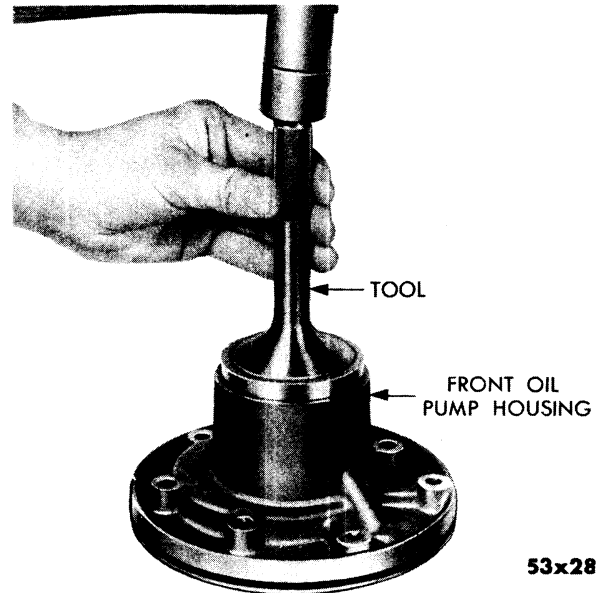
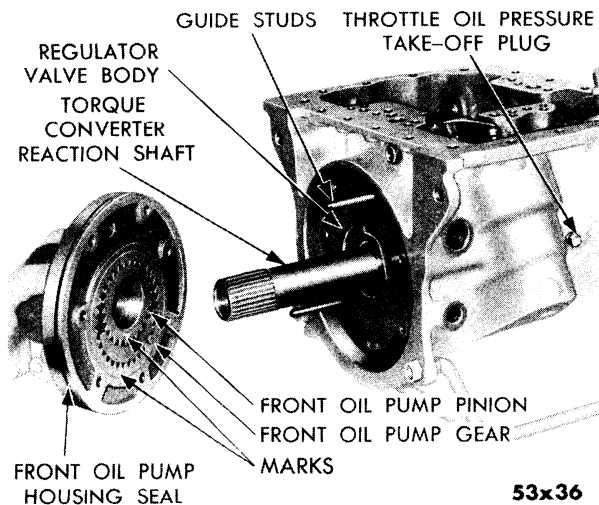

Fig. 105—Installation of Front Oil Pump Housing Dust Seal
Fig. 106—Installation of Front Oil Pump Assembly
- (1) Position front oil pump housing dust seal in front of oil pump housing (metal portion of seal down).
- (2) Using driver, Tool C-3287, bottom seal in housing. (Fig. 105.)
- (3) Coat new transmission oil pump housing seal with MOPAR Lubriplate and install on housing. Make sure seal is properly seated in groove and that it protrudes .010 inch above outer diameter of housing.
- (4) Place transmission front oil pump gear and pinion (driving lugs of pinion facing up) in oil pump housing. (Fig. 106.) Check marking.